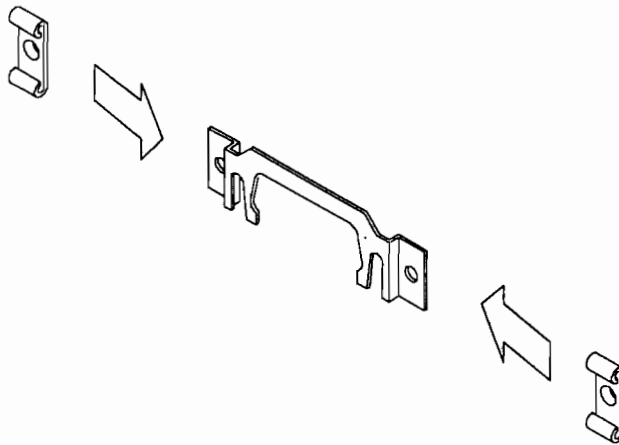

Figure 7-6. Sliding Clips onto Adapter Plate
1. To connect the system to an 802.3 network by using the external transceiver, you'll need to install the adapter plate assembly shown in Figure 7-6. This assembly adapts the transceiver cable's D-subminiature connector to the standoffs on the system unit. Slide the threaded clips onto both ends of the adapter plate as shown in Figure 7-6.